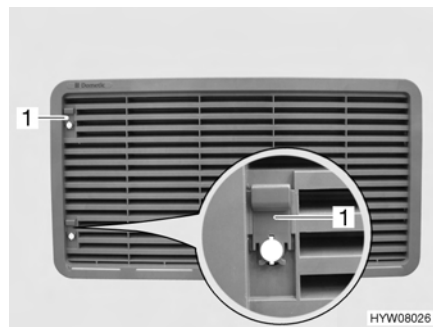

Fig. 84 Refrigerator ventilation grill (with sliding trap)
- Push sliding trap (Fig. 84,1) upward.